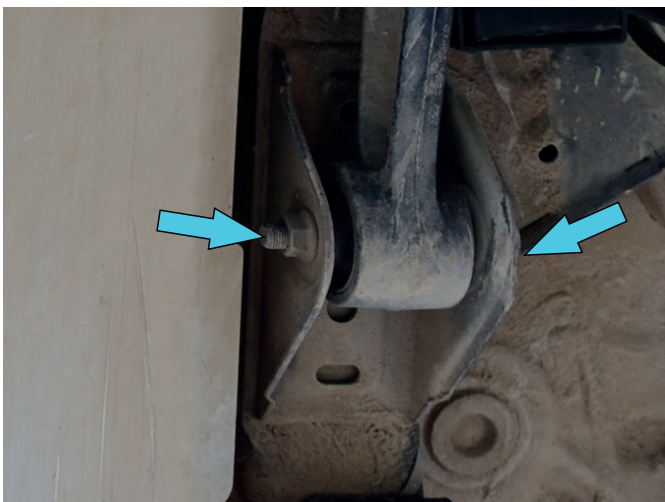

Fig. 3
3. Remove the factory bolt of the front left radius arm (Fig. 3).